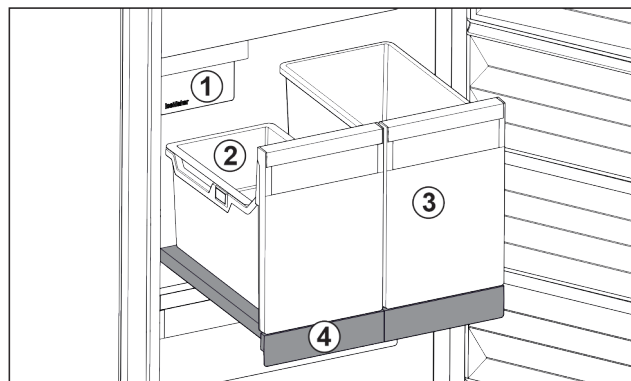

Fig. 98 Pull-out board with IceTower
- (1) IceMaker
- (2) Hang-on tray for ice cubes
- (3) Container for pizza or alcoholic beverages, for example
- (4) Pull-out board
On the pull-out board are two tall containers (IceTower). Ice cubes from the IceMaker are collected and stored in the container Fig. 98 (2). The container Fig. 98 (3) is suitable for storing tall foodstuffs or beverages such as pizzas or alcoholic drinks.